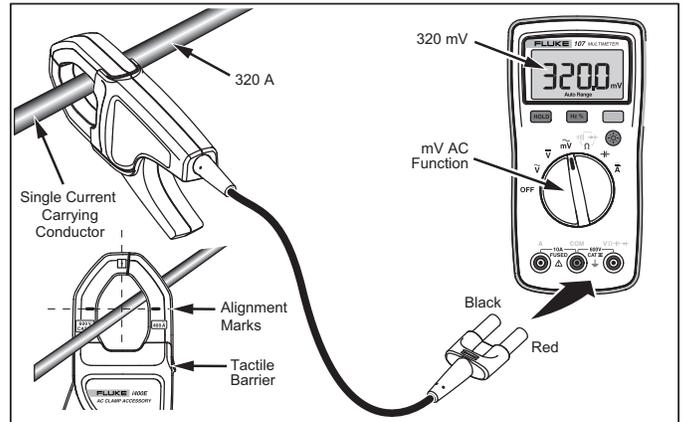

Figure 1. i400E Setup
To use the Product (see Figure 1):
3. Fix the Product around the current-carrying conductor to be measured. Make sure the jaws are tightly closed around the conductor. The Product is designed for highest accuracy when the conductor is centered on the jaw's alignment marks, see Figure 1.
**To avoid shock or personal injury, keep fingers behind the tactile barrier, see Figure 1.**